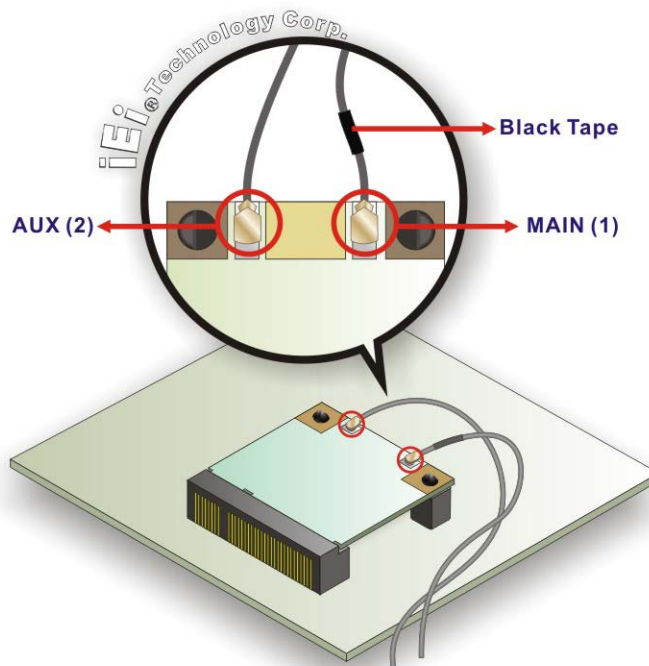

Figure 6-7: Attaching the Antennas
Step 10: Connect the main (1) and auxiliary (2) antennas. The main antenna is indicated with a strip of black electrical tape. See **Figure 6-7**.